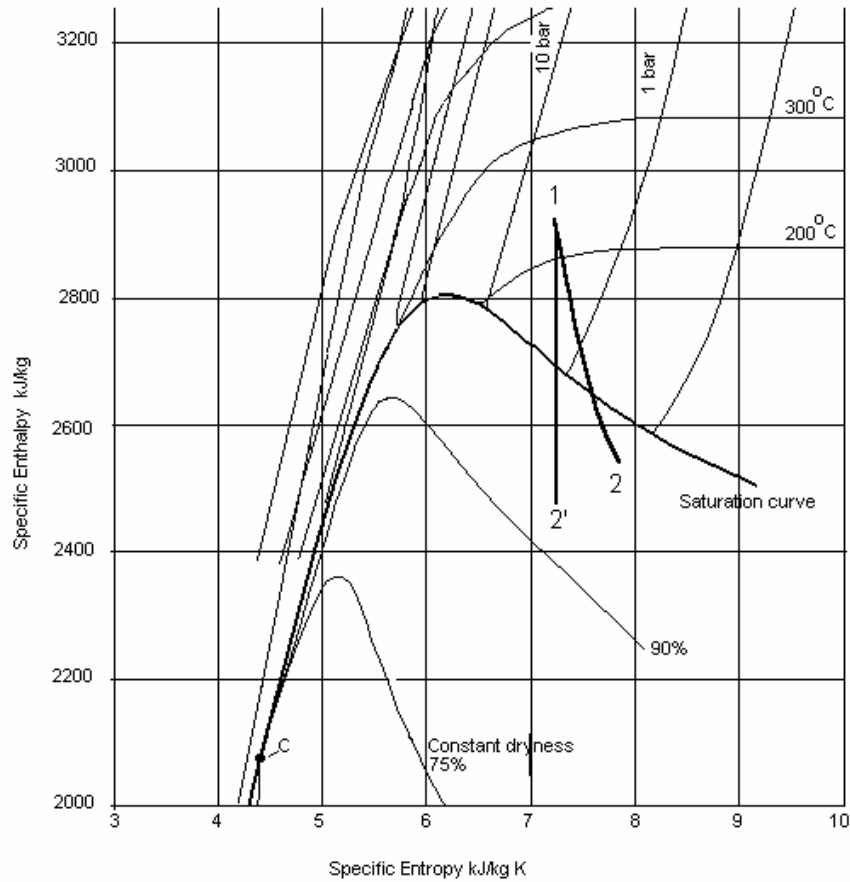

Figure 2
The same points are also apparent on the h-s diagram. Figure 2 shows a vapour expansion from (1) to (2) with the ideal being from (1) to (2'). Note how it ends up dryer at the same pressure with an increase in entropy. Vapour is not normally compressed so this is not shown.